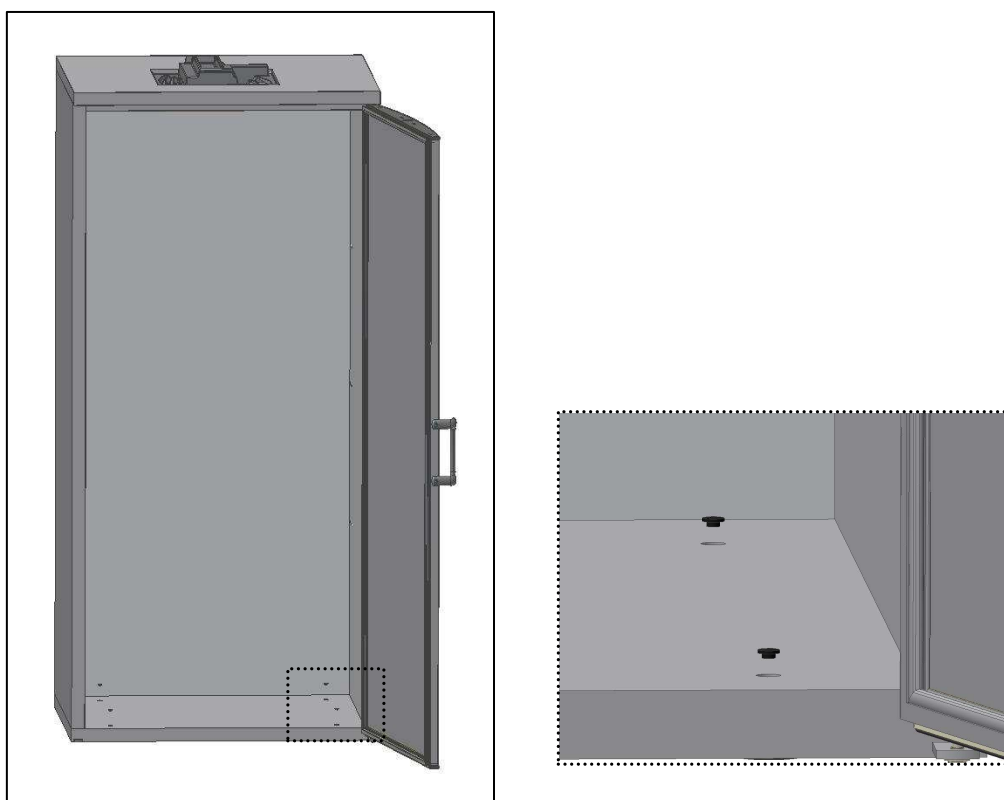

Fig. 11
- Colocar **tacos** no fundo (Fig.11);